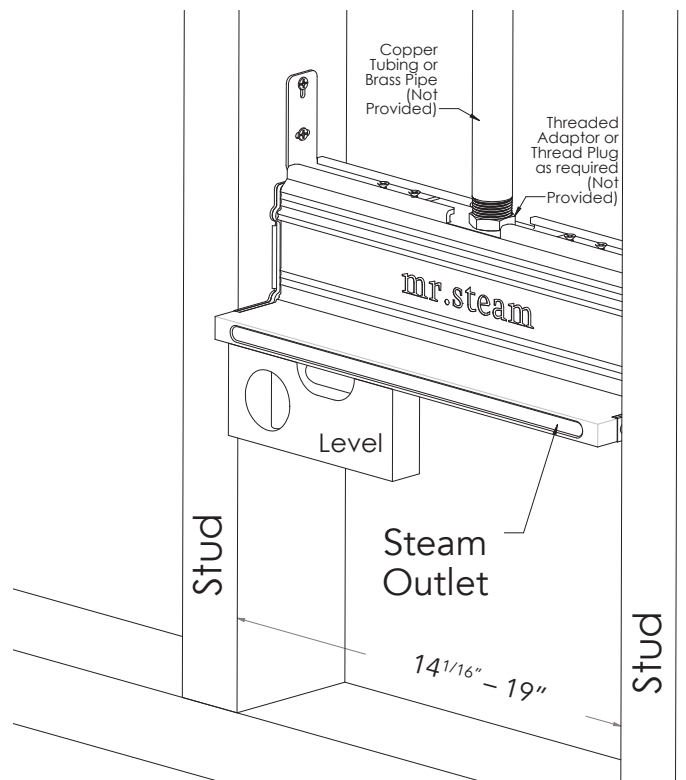

Figure 3
STEP 4. Use a level to ensure the steam head is level (see Fig. 3) and the steam head face is flush or recess 1/8" from the finished wall surface. Install the four screws in the vertical slotted mounting holes to secure the steam head to the studs.